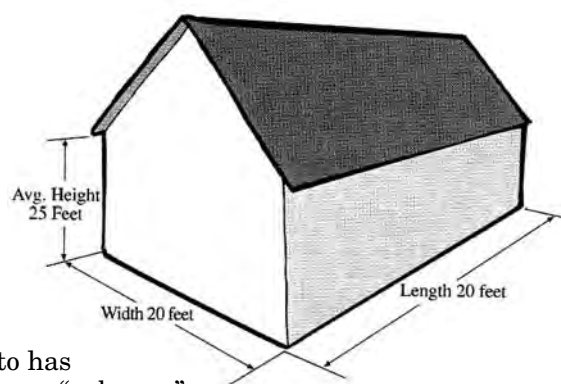
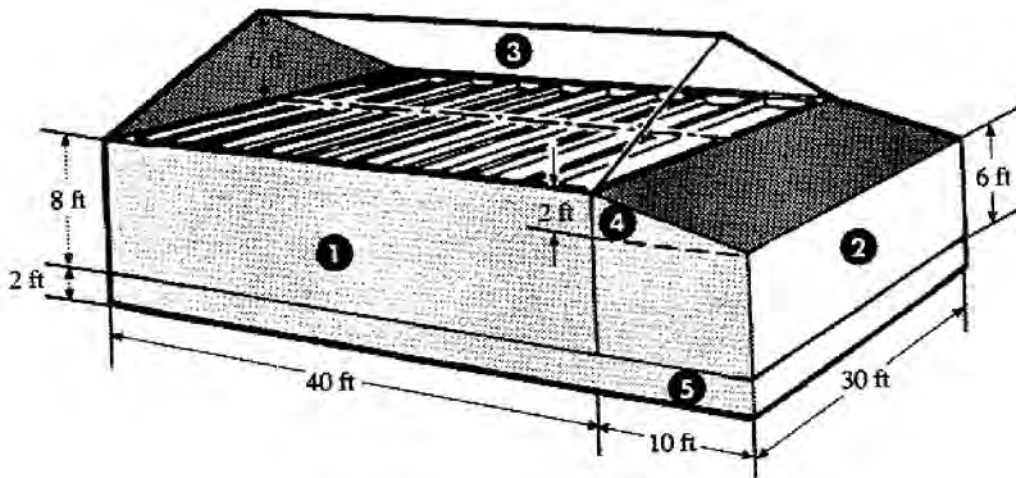

Figure 2
Figure 3
**Example 1:** The rectangular building shown in Figure 2 is 80 feet long and 20 feet wide, with an average height of 25 feet. Calculate the volume (cubic content) of the building.
This is a very basic example. A fumigator must be able to calculate the cubic content of buildings much more complicated than this. He or she also must understand how to determine average height. The building in Figure 3 is still simple, but a little more complicated than Figure 2. A lean-to has been added to the main structure, and there is a crawl space, or "subarea."
**Example 2:** To figure the volume in Figure 3, (cubic content) of this structure, use the same procedure outlined in Example 1, but calculate the volume of each section separately. Section 1 is the main section, not including the loft and subarea. Section 2 is the lean-to, not including the loft and subarea of that section. Section 3 is the loft area of the main structure. Section 4 is the loft area of the lean-to, and section 5 is the combined subareas below the main structure and the lean-to.